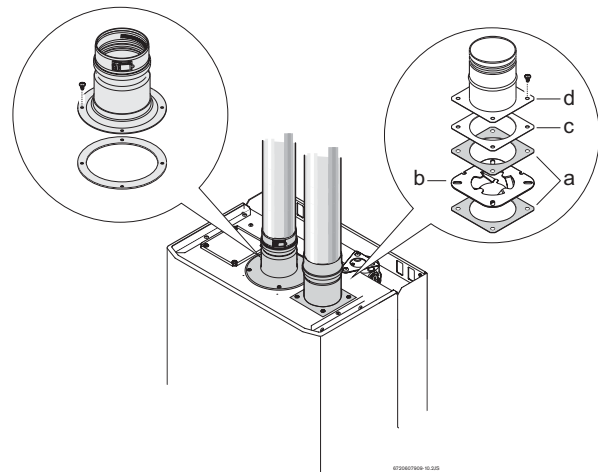

Fig. 16 Mounting sequence
Refer to Fig. 16 for mounting sequence.
- ▶ Place gasket, deflector, gasket and inlet air restrictor on the air inlet opening lining up screw holes as seen in Fig. 16.